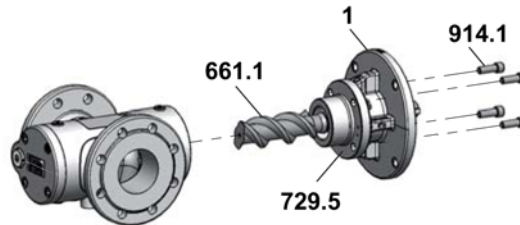

Fig 6
2. Pull the withdrawable unit consisting of main screw **661.1**, bearing, seal and flange cover out of the pump housing, see Fig.6.